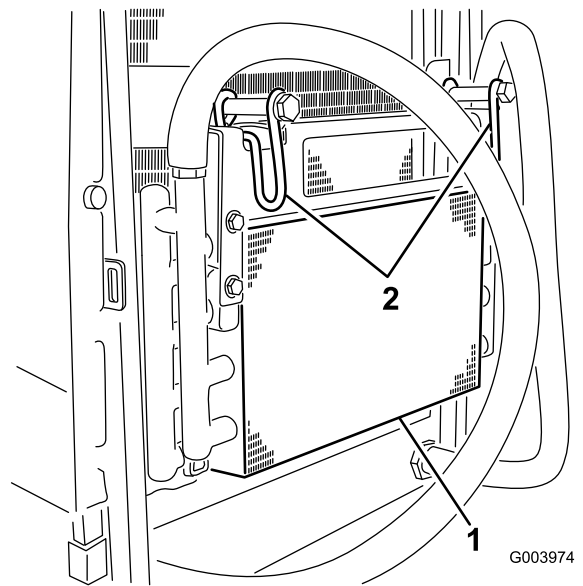

Figure 71
5. Pivot the latches inward to release the oil cooler (Figure 71).